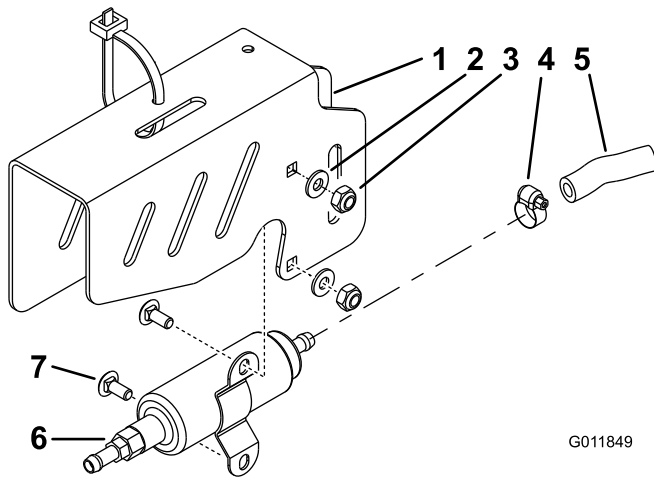

Figure 11
10. Install a short fuel hose to fuel pump removed earlier with a hose clamp and tighten the clamp (Figure 11).
12. Position the fuel pump into place and connect the short fuel hose (3 inch (7.6 cm)) to the fitting on the bottom of the left fuel tank with a hose clamp and tighten the clamp. Ensure the fuel line is not kinked once everything is tightened (Figure 11).
13. Assemble the fuel pump to the left hand fuel pump bracket with 2 carriage bolts (1/4 x 5/8 inch), 2 nuts (1/4 inch) , and 2 washers (1/4 inch) (Figure 11).